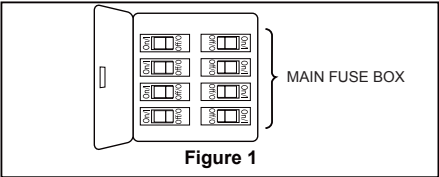
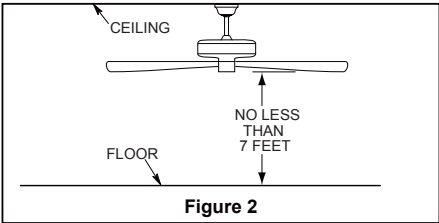
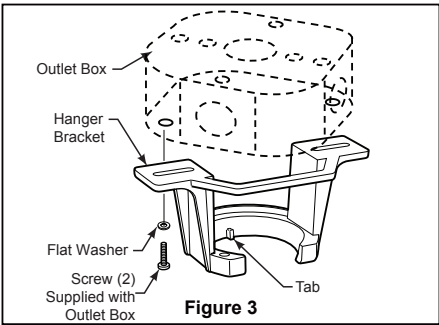

Figure 1
Figure 2
Figure 3
Your new ceiling fan will require a grounded electrical supply line of 120 volts AC, 60 HZ, 15 Amp Circuit. Electrical code requires use of a fan-rated outlet box to support the extra weight and motion associated with a ceiling fan. A fan-rated box will be labeled as such and typically supports up to a 70lbs ceiling fan. Fan-Rated Outlet Boxes vary in ratings and design. Ensure the ratings of your ceiling fan outlet box meet the requirements for the ceiling fan being installed. Figure 1, Figure 2 and Figure 3 depicts different structural configurations that may be used for mounting the outlet box.
Low-profile use (Figure 1)
Deep-profile use (Figure 2)
Brace use (Figure 3)
1. Remove the two set screws and locking nuts in the downrod support of the motor assembly and retain for reinstallation in Step 4 of Page 8. Disassemble the upper housing cover by removing the six screws at the top of the motor assembly and retain for Step 3. Carefully twist and lift off the cover. (Figure 1)
2. Slide blades through slots in motor housing and attach to the motor hub using the #8-32 washer head screws and fiber washers. Make sure the screws securing the blades to the motor hub are tight and are properly seated. (Figure 2)
3. Reassemble the upper housing cover to the motor assembly using the previously removed screws. (Figure 3)
1. Remove the hanger ball portion from the downrod/hanger ball assembly by loosening the set screw in the hanger ball until the ball falls freely down the downrod. Remove the pin from the downrod, then remove the hanger ball. Retain the pin and hanger ball for reinstallation in Step 6. (Figure 1)
2. Remove the hairpin clip and clevis pin from the bottom of the downrod. Retain the pin and clip for reinstallation in Step 4. (Figure 2)
3. Loosen the two set screws and locking nuts in the downrod support of the motor assembly. Route the brown, blue, red, gray and yellow wires through the downrod. (Figure 3)
To avoid possible fire or shock, be sure electricity is turned off at the main fuse box before hanging. (Figure 1)
The fan must be hung with at least 7' of clearance from floor to blades. (Figure 2)
- ☐ 1. Securely attach the hanger bracket to the outlet box (not included) using the outlet box screws and washers supplied with the outlet box. (Figure 3)
1. To set the code on receiver unit, slide dip switches to the same positions as set on the remote control. (Figure 1)
To avoid possible electrical shock, be sure electricity is turned off at the main fuse box before wiring. (Figure 2)
2. Slide the receiver into the hanger bracket before wiring as shown in figure 3.
- ☐ 2. Securely attach and tighten the canopy screw cover over the shoulder screws in the hanger bracket utilizing the keyslot twist-lock feature. (Figure 2)
2. Remove the three screws in the light kit assembly. Retain the screws for Step 4. (Figure 2)
- ☐ **2.** Restore electrical power to the outlet box by turning the electricity on at the main fuse box. (Figure 2)
- ☐ **3.** Remove the battery cover from remote control by screwdriver and retain the screw for later. (Figure 3)